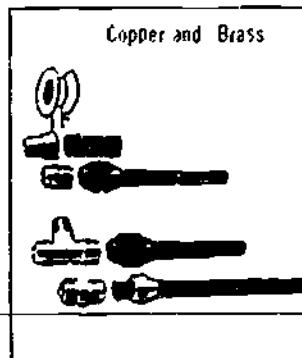

Figure 35-10. Qicklite Direct Connectors
- Direct connection (without adapters) is made to: copper tubing, CPVC tubing, and polybutylene tubing (Figure 35-10).